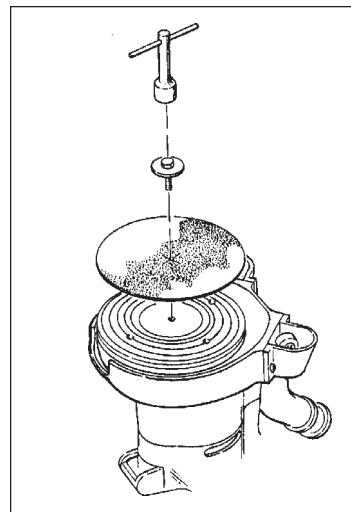

Figure 1
1. Remove screw and abrasive retainer. Center abrasive on pad and secure with abrasive retainer and screw. (Figure 1)